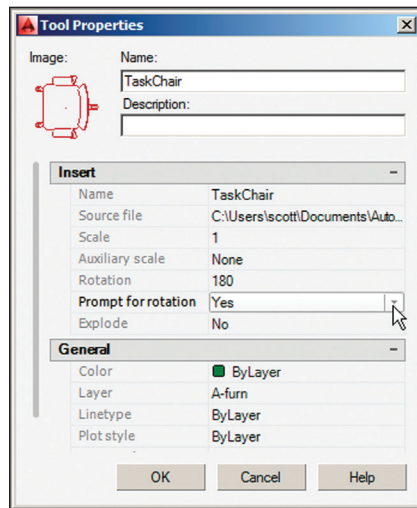

FIGURE 9.17 Adjusting tool properties to prompt for rotation
4. Right-click the TaskChair tool in the Furniture palette and choose Properties from the context menu. Change Prompt For Rotation to Yes in the Tool Properties dialog box that appears (see Figure 9.17). Click OK.